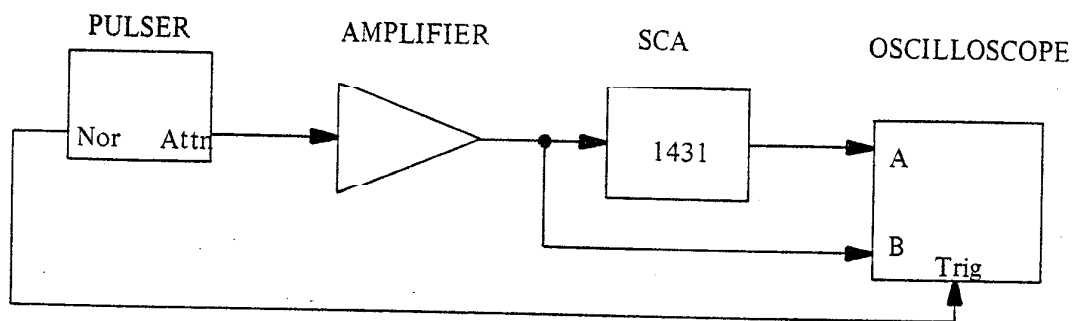

Figure 1
5.2.1 Connect instruments as shown in Figure 1.